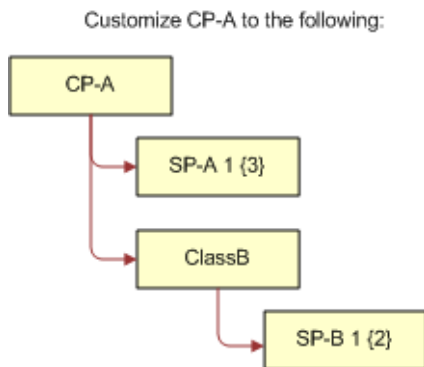

Figure 10. Customized CP-A
- 2 CP-A is then customized as shown in Figure 10.
Figure 10 shows the customized CP-A with the following structure: CP-A has a simple product relationship called SP-A defined and a Product Class called ClassB. Another simple product relationship called SP-B is defined and associated with ClassB. SP-A has a default quantity of 1 and the attribute value 3. SP-B has a default quantity of 1 and the attribute value 2.
- 2 Add CP-A to a quote or order line item, and then customize CP-A as shown in Figure 10.